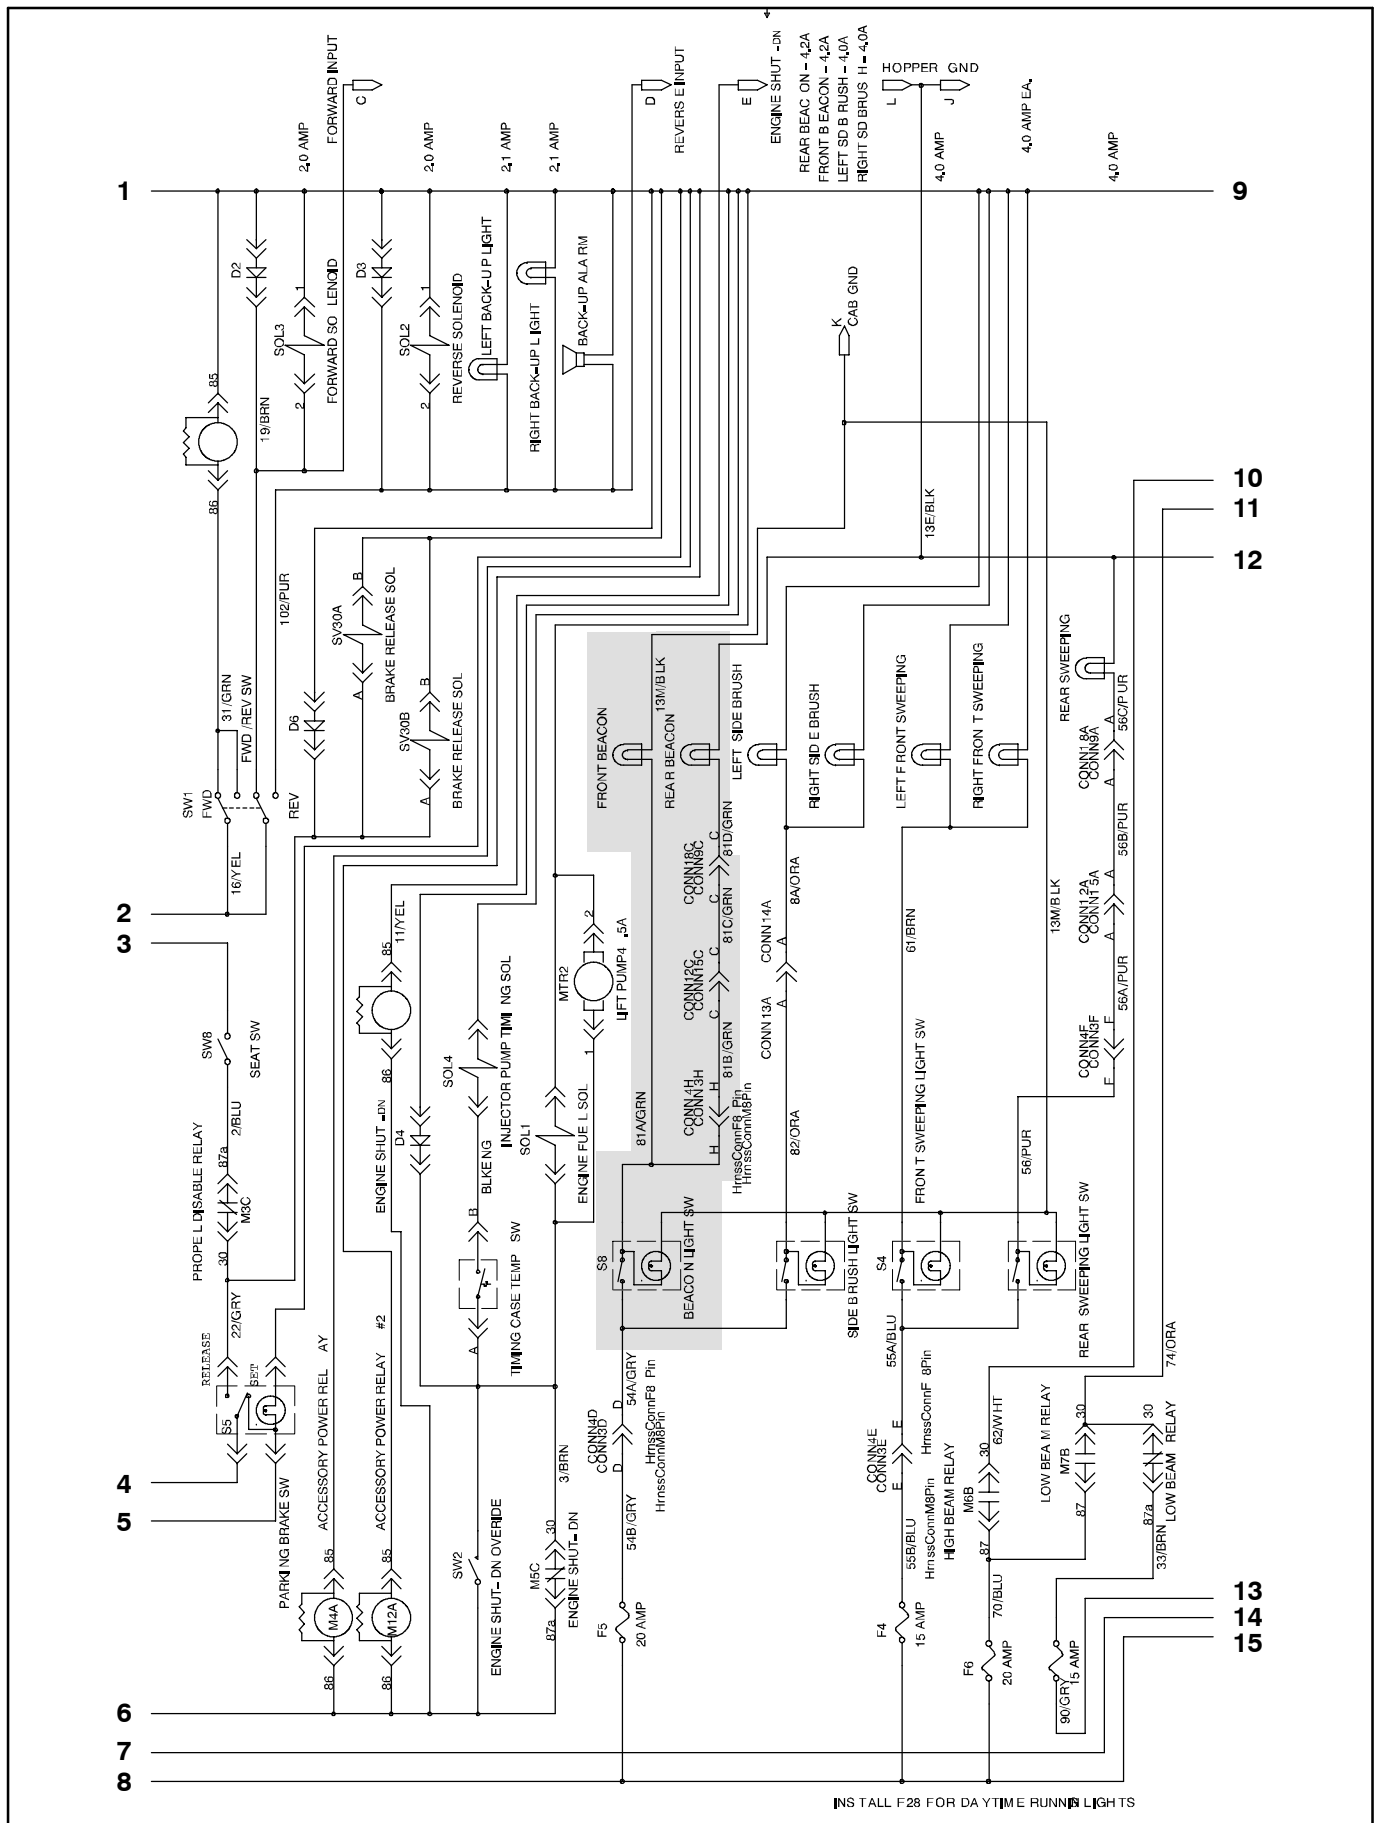

FIG. 7
8. Crimp a terminal (7) and (8) onto the wires from the lamp assembly (1). Refer to Fig. 7 and the 81A/GRN wire and 13M/BLK wire on the main wire harness for locations of terminals (7) and (8).
9. Route the 81A/GRN wire and 13M/BLK wire from the main wire harness up through the grommet (3) and connect both wires to the lamp assembly (1). Refer to Fig. 7.
16. Crimp a terminal (7) and (8) onto the wires from the lamp assembly (1). Refer to Fig. 7 and the terminals on the 81D/GRN wire and 13EG/BLK wire on the main wire harness for locations of terminals (7) and (8).
17. Route the 81D/GRN wire and 13EG/BLK wire from the main wire harness up through the grommet (3) and connect both wires to the lamp assembly (1). Refer to Fig. 7.